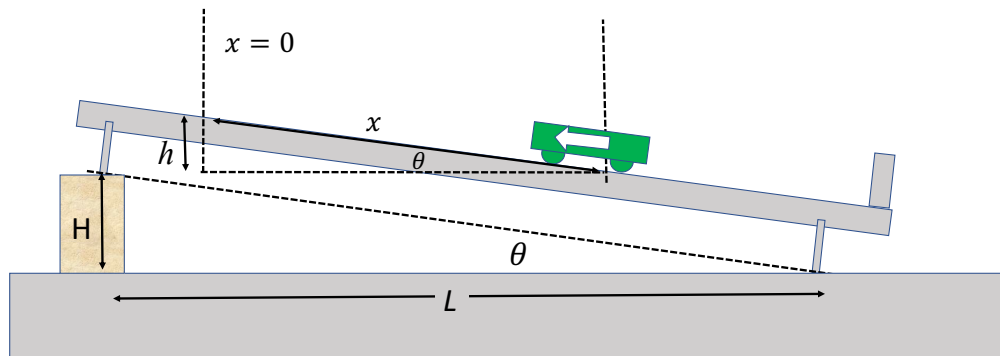

Figure 2
1. Slip the spacer block under the leveling feet as shown in Figure 2. Measure the distance between the leveling feet,  $L$ , the elevation of the higher end,  $H$ , and the mass of the cart,  $M$ . Calculate the angle  $\theta$ .